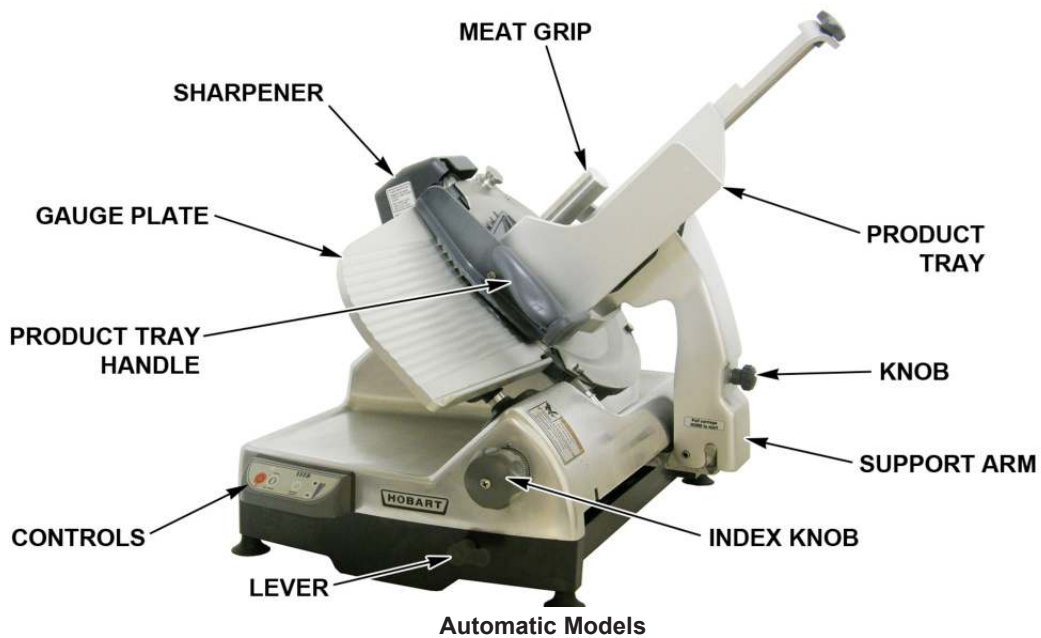
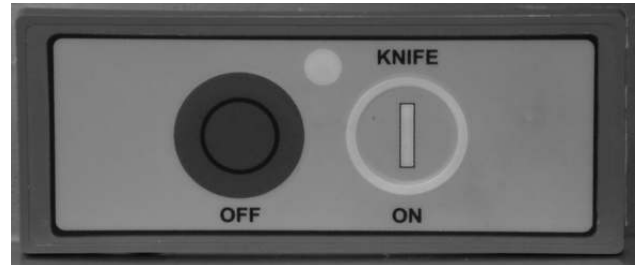

Fig. 1
Fig. 3
- Gauge Plate Interlock – prevents the Product Tray (Fig. 1) from being tilted or removed unless the Product Tray is in the home position (pulled all the way forward) and the Gauge Plate is closed.
- Home Start – requires the Product Tray (Fig. 1) to be in the home position (pulled all the way forward) before the slicer can be started.
- Close-to-Stop – turns the slicer off when the Gauge Plate is returned to the closed position by turning the Index Knob (Fig. 1) fully clockwise. The slicer also is turned off if the OFF button is pressed.
The Product Tray (Fig. 1) must be installed.
- Close the Gauge Plate (Fig. 1) by turning the Index Knob (Fig. 1) fully clockwise.
- Pull the Product Tray (Fig. 1) toward the operator until it reaches its stop. This is the home position.
- Raise the Meat Grip (Fig. 1) to the top of the Product Tray to rest in the Meat Grip Slot.
- Place the product to be sliced against the Gauge Plate (Fig. 1) on the Product Tray (Fig. 1).
- Turn the slicer on by pressing the KNIFE ON button (Fig. 3).
- Use the Product Tray Handle (Fig. 1) to push and pull the Product Tray back and forth to slice. When finished, pull the Product Tray forward until it stops. Turn the Index Knob fully clockwise to close the Gauge Plate, this will turn the slicer off. The OFF Button (Fig. 3) can also be pressed to stop the slicer.
- Use the Product Tray Handle (Fig. 1) to push and pull the Product Tray back and forth to slice. When finished, pull the Product Tray forward until it stops. Turn the Index Knob fully clockwise to close the Gauge Plate. This will turn the slicer off. The OFF Button (Fig. 5) can also be pressed to stop the slicer.